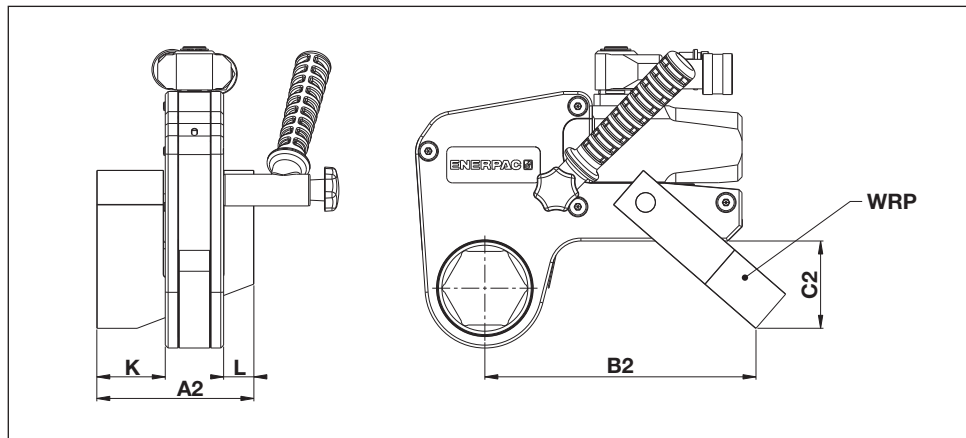

Fig. 22
6.1.2 Dimensions, WRP Series Reaction Paddle (Fig. 22)